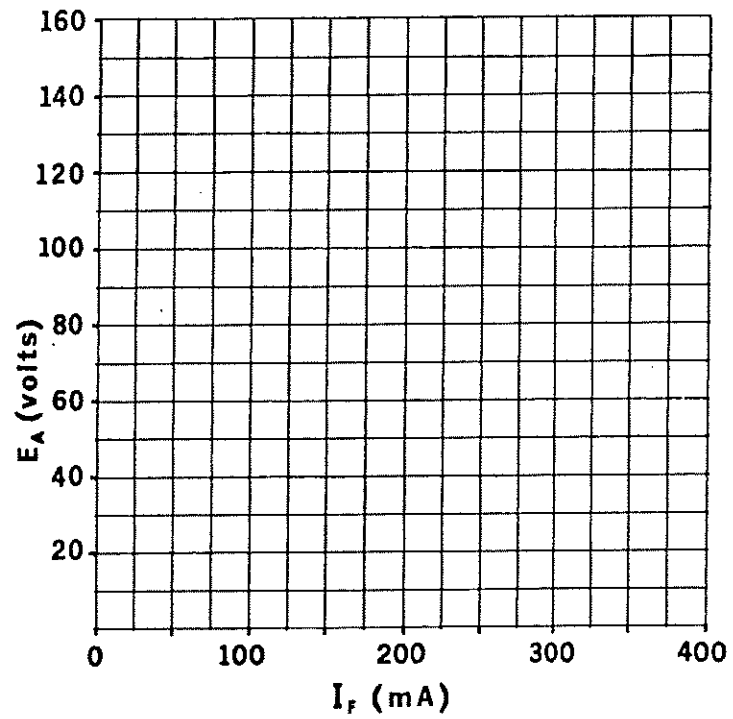

Figure 7-4.
3. Plot the E_A vs I_f characteristic curve for your DC shunt generator on the graph of Figure 7-4. Use the data from Table 7-1. Note that the curve "bends over" as the field current increases. Can you explain why this happens?